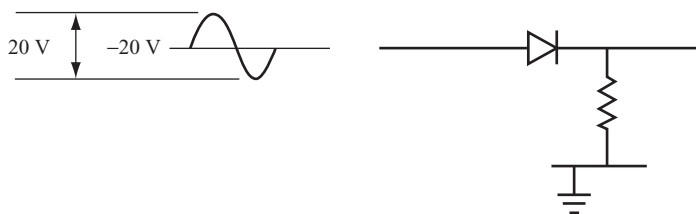

FIGURE 11.10
**7** Figure 11.10 shows a circuit with a  $20\text{ V}_{pp}$  AC input signal centered at  $-20\text{ V}$  DC.